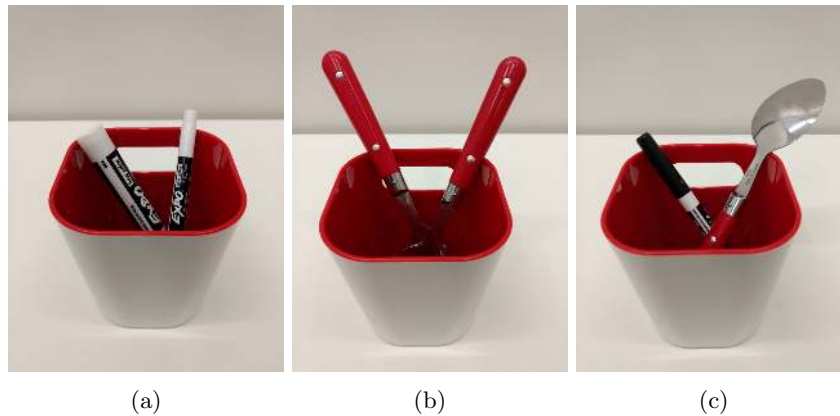

Figure 9: Example of a correct a) markers and b) cutlery orientation-based items' delivery, and c) incorrect delivery, where the tips should face downwards.
- Correctly depositing an object based on its orientation (e.g. markers' tips facing downwards as in Figure 9): 10 additional points per object.